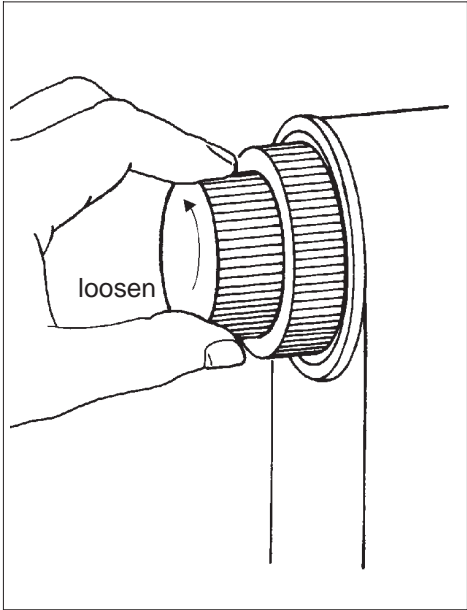

Fig. 4-5a: Outer knurled knob
- Turn outer knurled knob (1) counterclockwise and loosen specimen changer (Fig. 4-5a).
- Tighten outer knurled ring (2) (Fig. 4-5a).